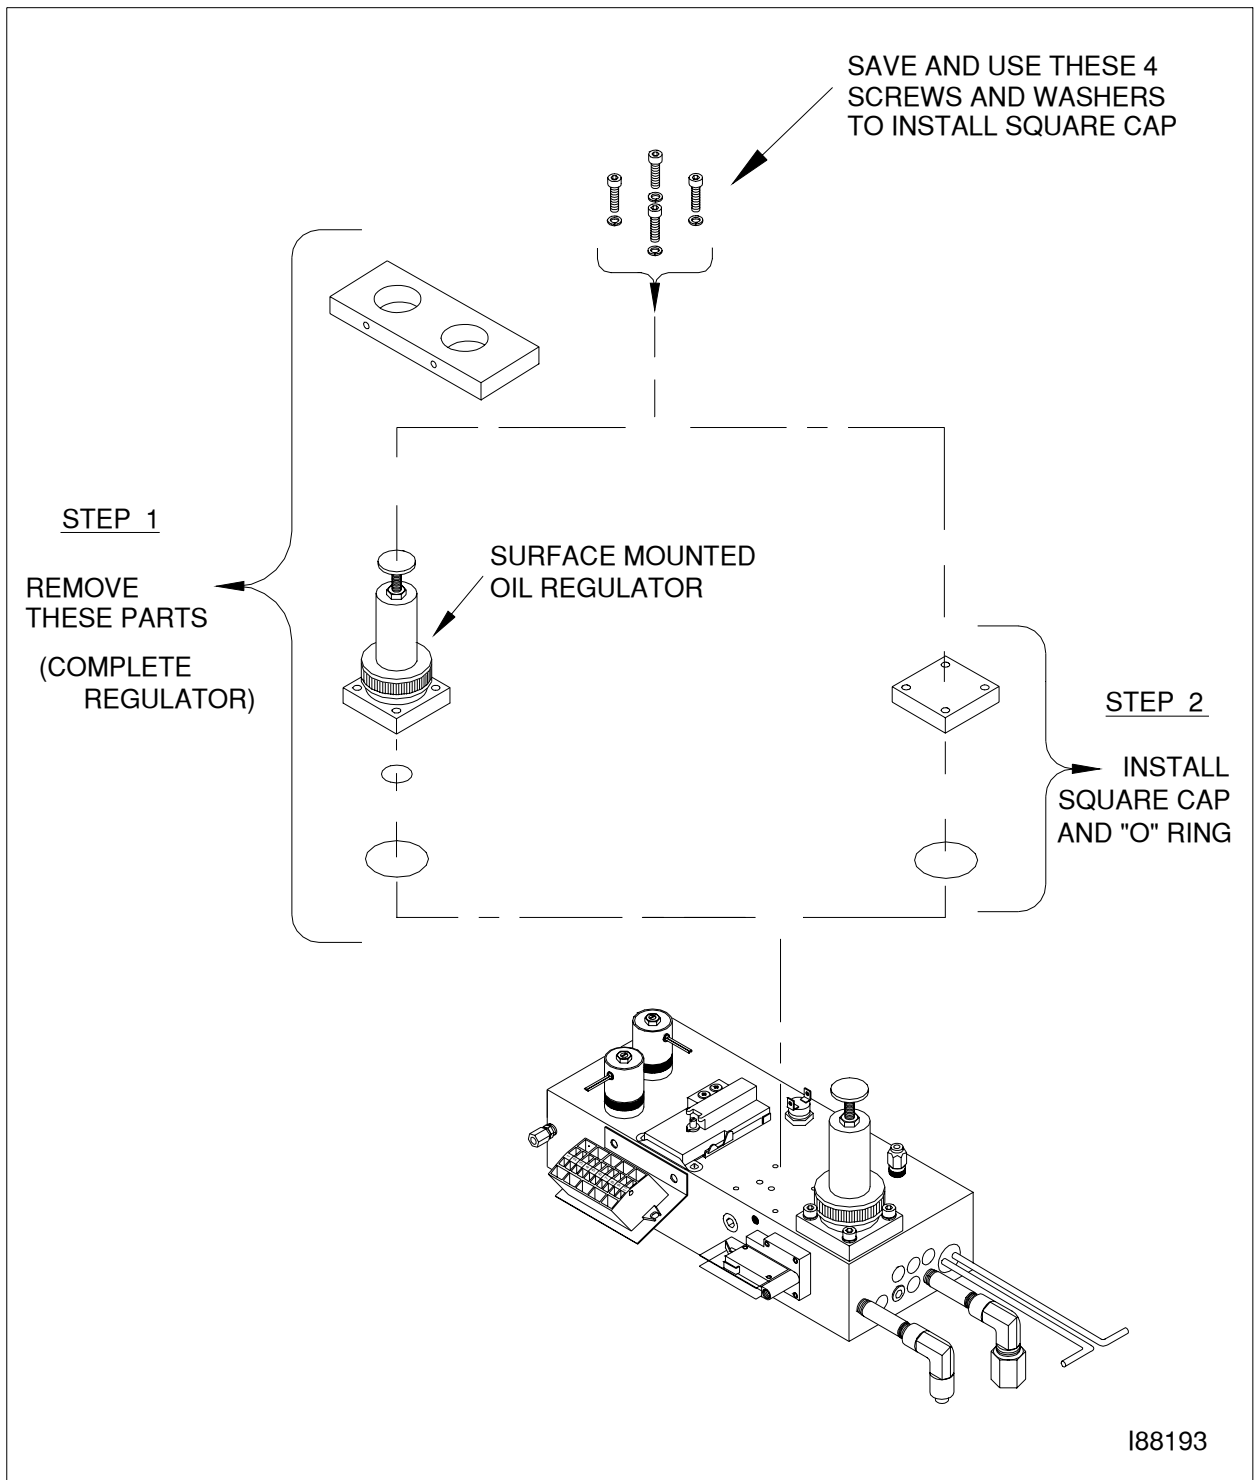

Figure 5B - Detail of Heater Block with Surface-Mounted Oil Regulator
5. Refer to Figure 5B. Use a 5/32" Allen wrench to remove the four (4) bolts and washers holding the surface-mounted oil regulator in place, then carefully remove the oil regulator.
7. Install the square cap with the o-ring using the four (4) bolts and washers. Tighten the four bolts firmly in a *crisscross pattern* to ensure that there are no leaks.